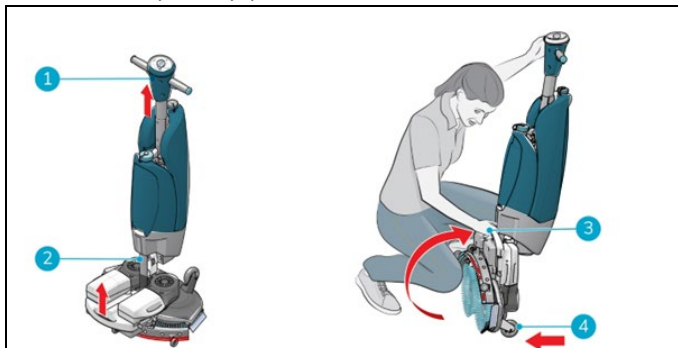

Figure 6
1. Make sure the vacuum hose (Figure 6 pos 2) is pushed back into the machine so it cannot get squeezed.
2. Crouch down and hold the handle (Figure 6, pos 1) with one hand while holding the scrub deck (Figure 6, pos 3) with your other hand.
3. Lift the scrub deck slowly until it stands upright on the front wheels (Figure 6, pos 4). Guide the body towards the scrub deck until it snaps into a resting position.